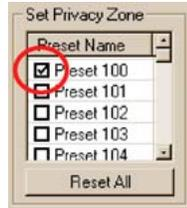

Fig. 6. Setting up a privacy zone on a RapidDome PTZ camera.
- Select the box next to the preset name so that it shows a check-mark. See figure 6, above, and figure 3–(4), on page 13. Remove the checkmark to enable Live and recorded video from that PTZ preset.